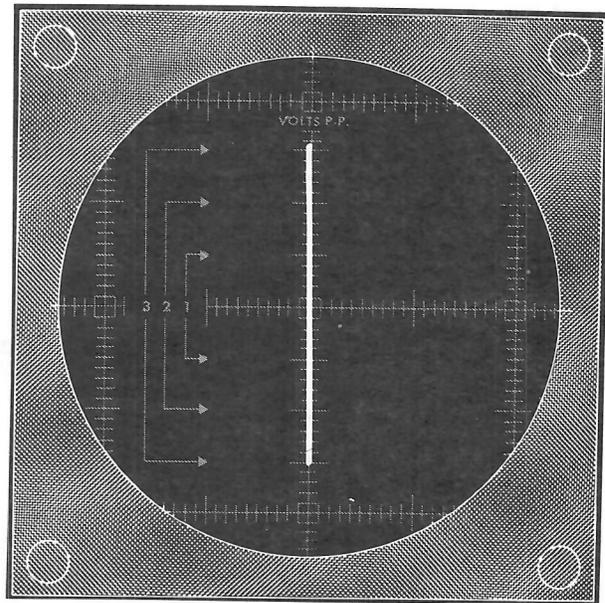

Figure 3-35
- () Adjust the horizontal position (horizontal centering) control so that the line coincides with the vertical axis as in Figure 3-35.